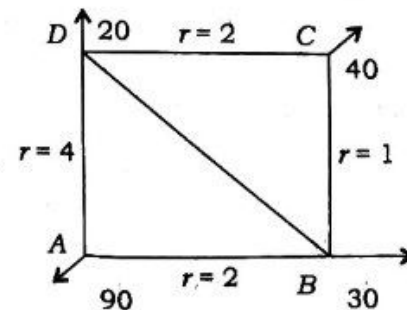

Fig. 2
- (b) Calculate the discharge in each pipe of the network shown in the Fig. 2 given below. The pipe network consists of 5 pipes. The head loss h_f in pipe is given by $h_f = rQ^2$. The values of r for various pipes and also the inflow or outflows at nodes are shown in the Fig. 2 below : 7